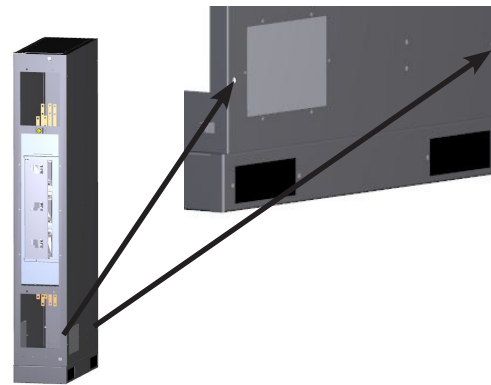

Figure 12-5 - 431M Lower Attach Points - Detail
- Four mounting bolt holes on the right side to secure the unit to the left side of the UPS. See Figure 12-5.
2. Remove the cable access plate at the lower-front right side of the 431M Cabinet. (See Figure 12-5)